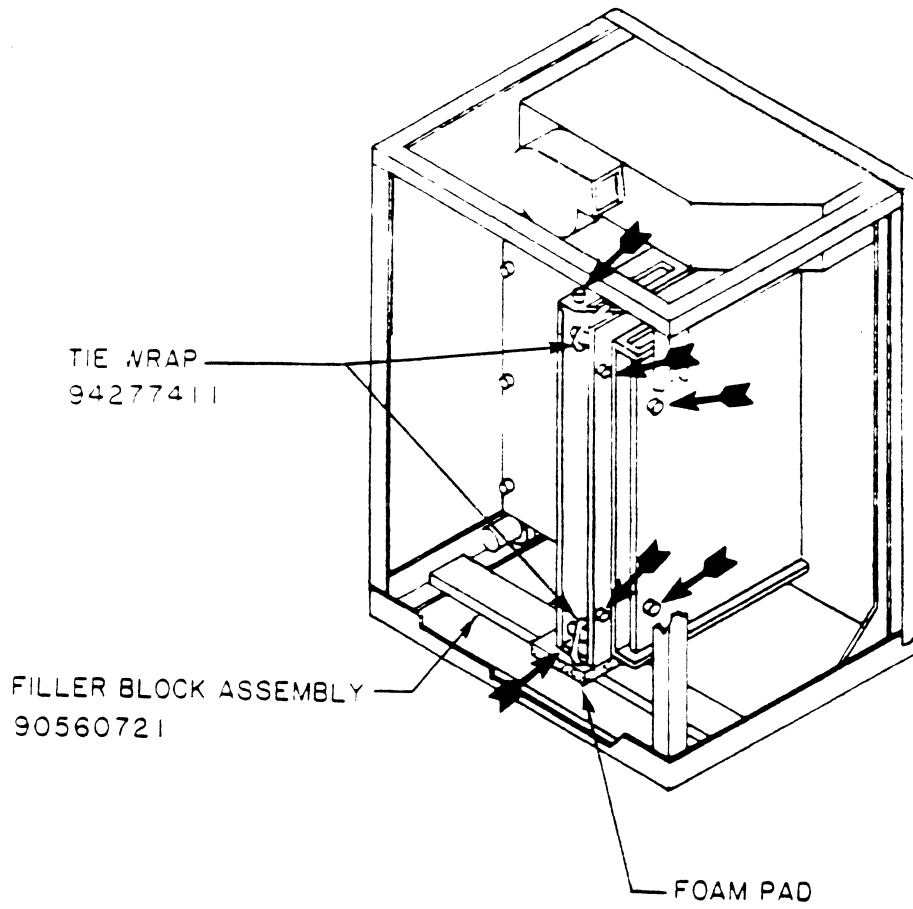

Figure 3-13. Unpacked STU
- c. Position filler block assembly across bottom rear of frame. The foam pad on filler block assembly should be wedged under PWA cage as shown in figure 3-13.
- d. Secure knurled knobs to PWA's with filament tape located as shown with arrows in figure 3-13.
- e. Thread (2) tie-wraps through outside rib on top and bottom of large card cage, and around spacer located between the two PWA's and fasten (refer to figure 3-13).